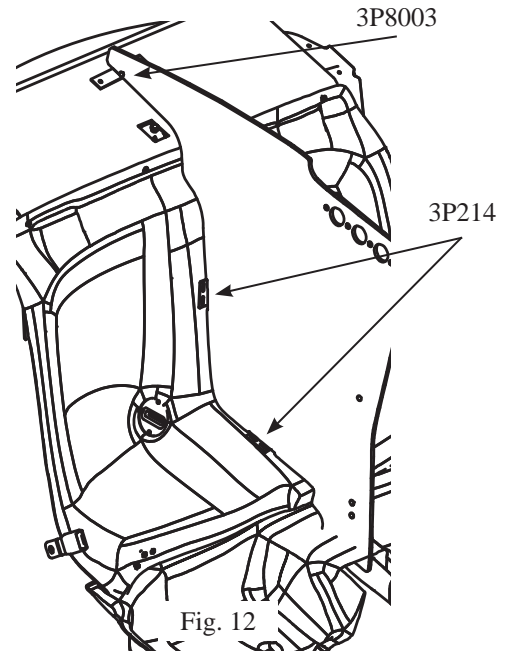

Fig. 12
- C. Once you've installed the divider, mount the divider deck bracket (3P8003) in place. Slide the T-bracket under the divider tail. Position the T-bracket where desired and use the (3X110) self-tapping screws to fasten the bracket into the speaker deck (See Fig. 12).